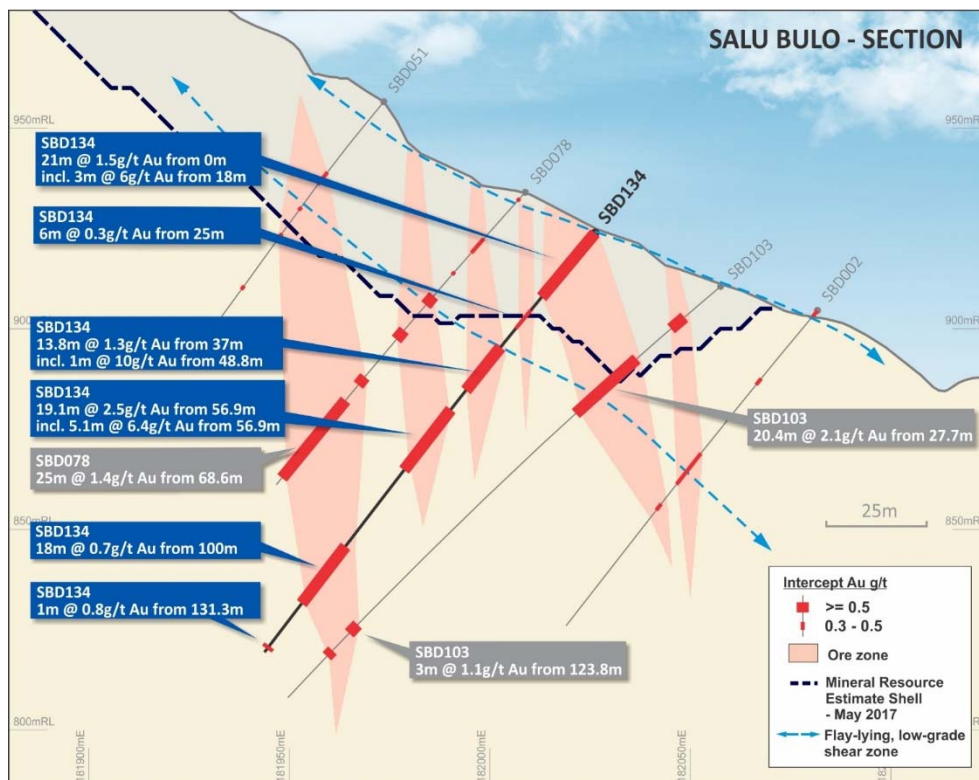

Figure 2: Cross-section of Salu Bulu deposit showing mineralised intersections > 0.3 g/t Au in SBD134.
- SBD134 (Figure 2); **21.0 m at 1.5 g/t Au** from 0.0 m, including **3.0 m at 6.0 g/t Au** from 18.0 m, **13.8 m at 1.3 g/t Au** from 37.0 m, including **1 m at 10.0 g/t Au** from 48.8 m; and **19.1 m at 2.5 g/t Au** from 56.9 m, including **5.1 m at 6.4 g/t Au** from 56.9 m;
The drill hole results provide increased confidence in defining extensions along strike, including parallel mineralisation. Of particular interest are the results from hole SBD134 (Figure 2) drilled at the northern end of the Biwa trend, indicating strong grade continuity on the two central structures plunging to the north. Likewise, at the southern extent of the Biwa trend, encouraging results were returned from hole SBD136 (Figure 3) where the shallow gold mineralisation clearly indicates potential to extend the system beyond the current Mineral Resource shell. It is evident that this vein system is open along strike to the north and south and there is excellent potential for additional mineralisation to be outlined in the step-out drilling to follow.